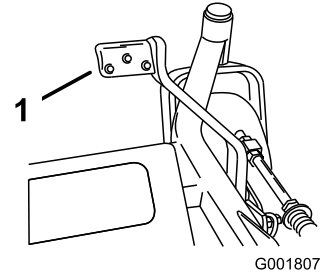

Figure 27
2. Press on the lift-assist lever while pulling up on the height-of-cut lever (Figure 27).